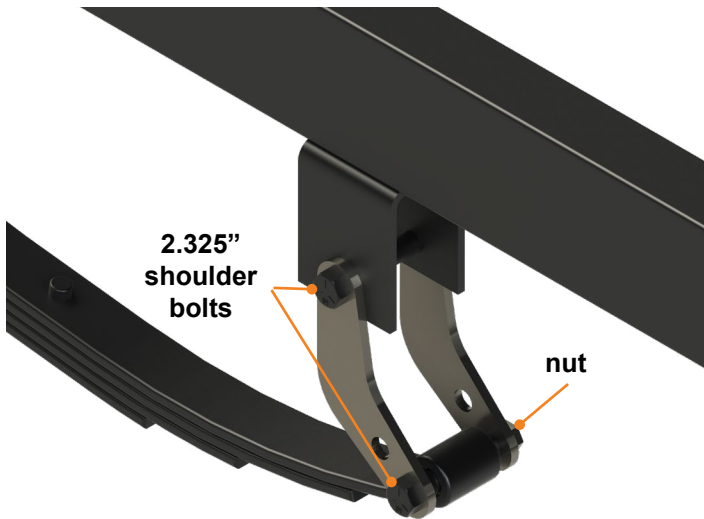

Fig.6
7. Insert two  $\frac{9}{16}$ " x 2.325" shoulder bolts (bolt length 2.875") through the new shackle, the eye of the spring and through the remaining shackle (**Fig. 6**).